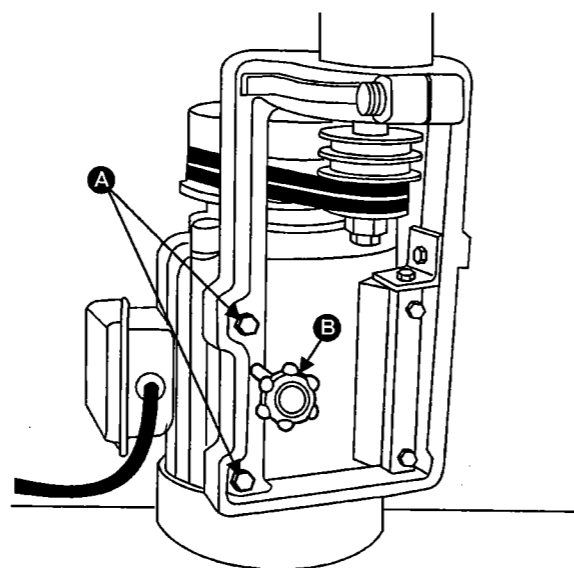

FIGURE 5
3. Loosen two hex cap bolts (A), Figure 5.
4. Turn the tensioning knob (B) counter-clockwise to release belt tension. Move the belts to the other set of grooves.